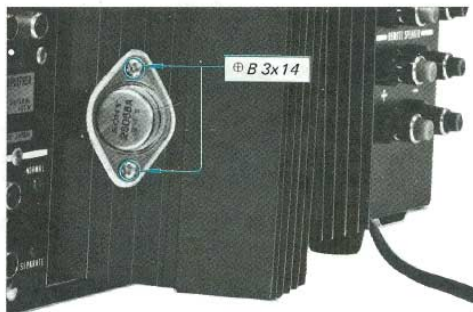

Fig. 2-9 Power transistor removal
4. Carefully draw back the pair of heat sinks, and then remove the two screws ($\text{Ø} B 3 \times 14$) and nuts securing the power transistor to the heat sink. See Fig. 2-9.